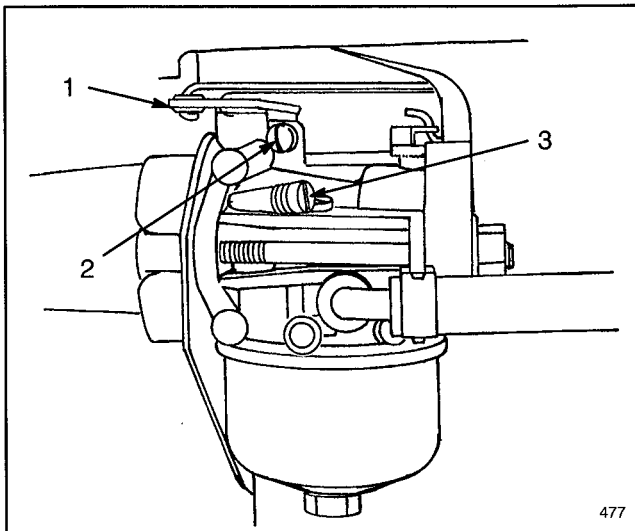

Figure 16
1. Gently turn idle mixture valve clockwise until it **just** closes (Fig. 16). Turning valve in too far may cause damage.
4. Rotate throttle (Fig. 16) counterclockwise and hold against idle speed adjusting screw (Fig. 16) while turning idle speed adjusting screw to obtain 1750 RPM.